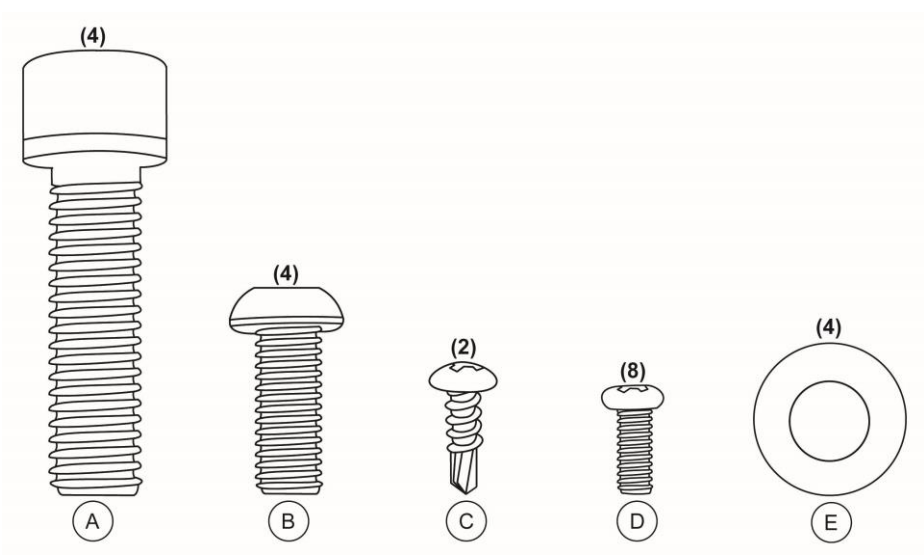

Figure 1
- (2) Covers for Display Support (Front & Back)
- Hardware for assembly (see Figure 1 on page 9)
4. Position the center handrail over the left and right handrail supports on the platform. Fasten the handrail to the platform using (4) M8 1.25 x 3/8 screws (B) and (4) M8 washers (E). Use the 5mm Allen wrench to tighten the screws. Do not over tighten (see Figures 1, 2 & 4 on pages 9 & 10).
5. Loosely attach the left and right side handrails to the center handrail, using (4) M10 1.5 x 1 ½ screws (A). Use the 8mm Allen wrench to fasten the screws (see Figures 1 & 2 on page 9).
13. Align the four mounting holes on the back of the display assembly with the four mounting holes in the display support. Fasten the display assembly onto the metal display support by using (4) Phillips pan head M4 screws (D). Use Phillips head screwdriver to tighten the screws (see Figures 1 & 5 on pages 9 & 10).
14. Place the pivot bracket screw covers over the pivot screws. Fasten the covers to the back of the display using (4) Phillips pan head M4 screws (D). Use Phillips head screwdriver to tighten the screws (see Figures 1 & 5 on pages 9 & 10).
15. Attach the adapter holder to the center rail using (2) #8 x ½ sheet metal screws (C). Use Phillips head screwdriver to tighten the screws (see Figures 1 & 2 on page 9).